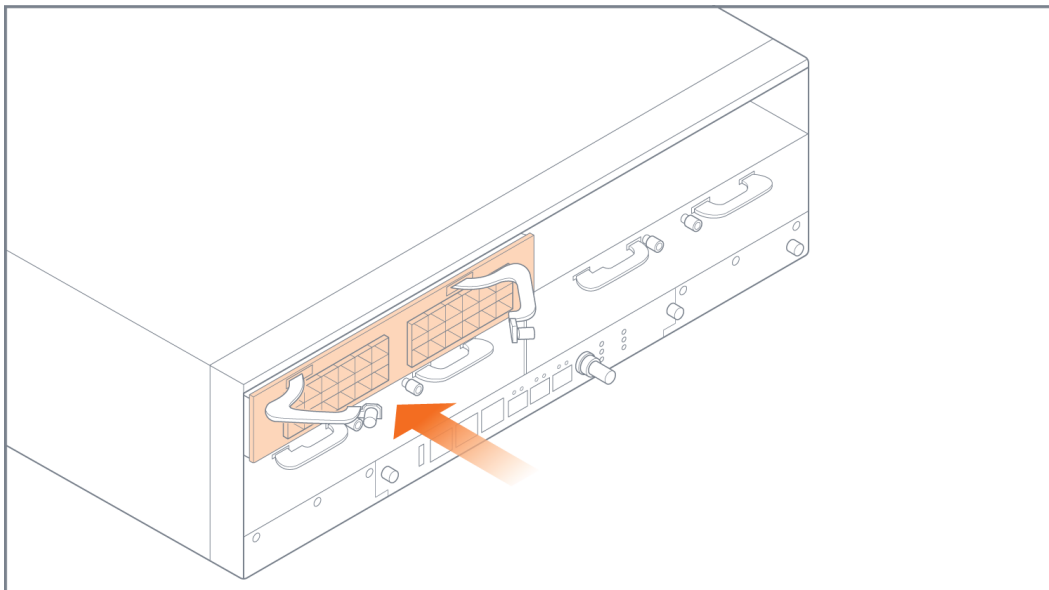

Figure 11 *Module Insertion*
2. Carefully slide the module into the bay until it mates with the mid-plane as shown in Figure 11 Module Insertion.